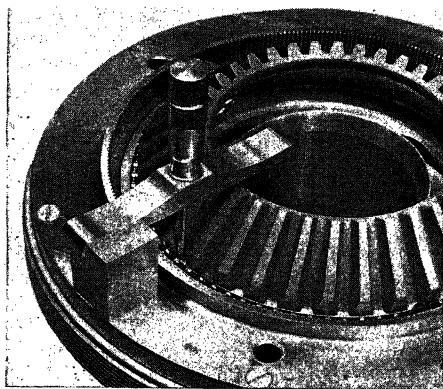

FIG. 48.—Checking gear pre-load by measurement.
4. With the dome completely assembled, except for the positive high- and low-pitch stop rings, measure, with a depth gage and size block, the distance from the surface of the stop locating plate, which rests on the barrel dome shelf, to the rear surface of the inner race of the rear cam ball bearing (Fig. 48).
5. The pre-load is the difference between items 3 and 4 and should be  $0.018 \pm 0.005$ .